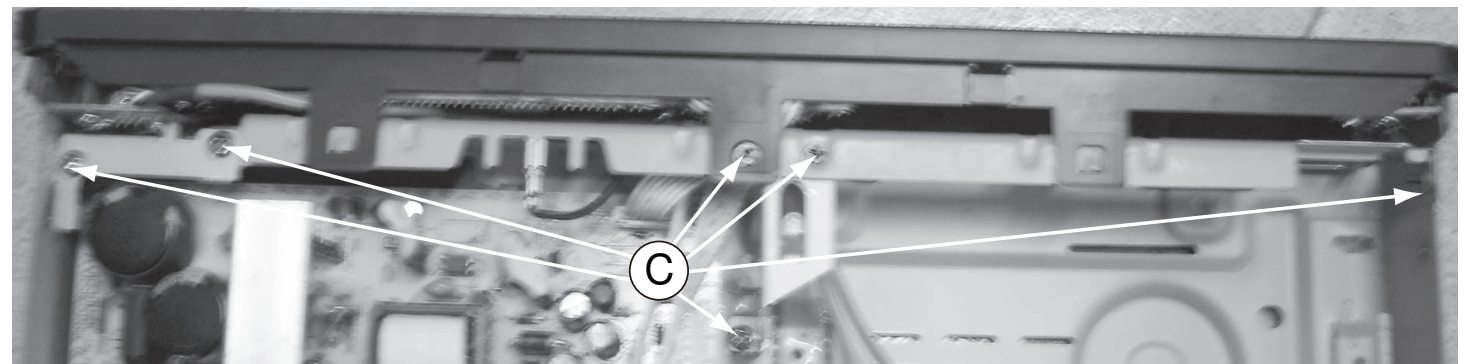

Figure 6
- 4) Loosen 6 screws "C" at the bottom panel as in figure 6 to remove the front panel.